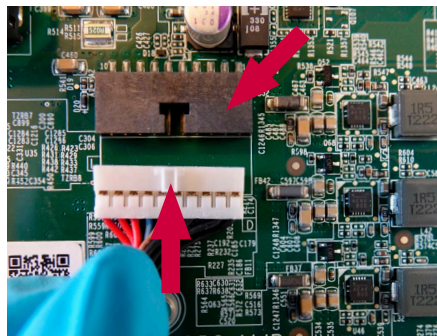

Figure 32 Reconnect the battery connector
- Reconnect the battery to the battery connector (see Figure 12 and Figure 32)**